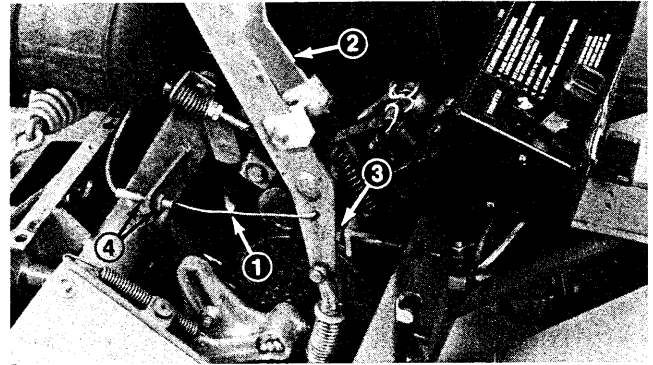

Figure 45
3. Cable connected to traction control lever should be tight but not pulling lever away from stop screw (Fig. 45).